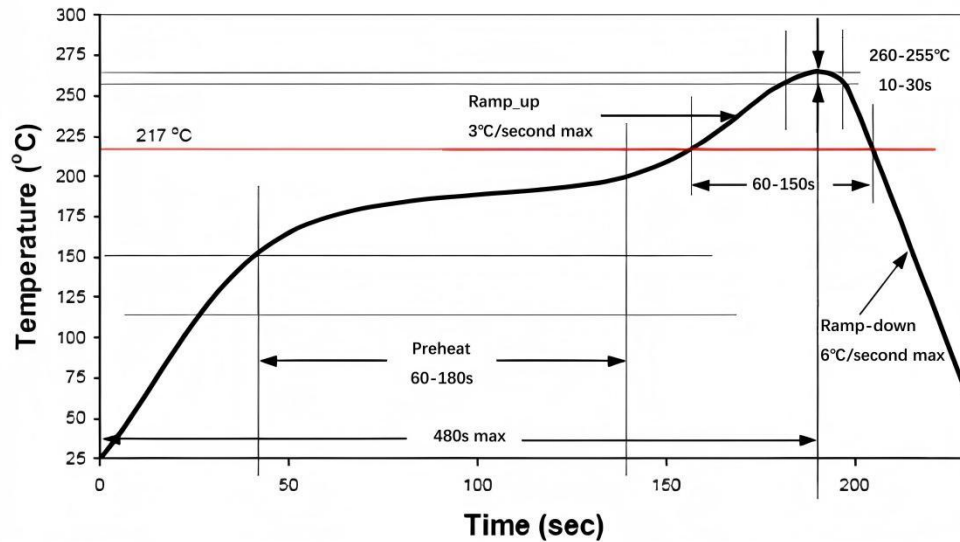

Fig.6 Reflow soldering temperature setting conditions
(1) Manual welding
(2) Reflow soldering (SMD terminal type)
- The recommended reflow oven temperature setting conditions are shown in Figure 6.